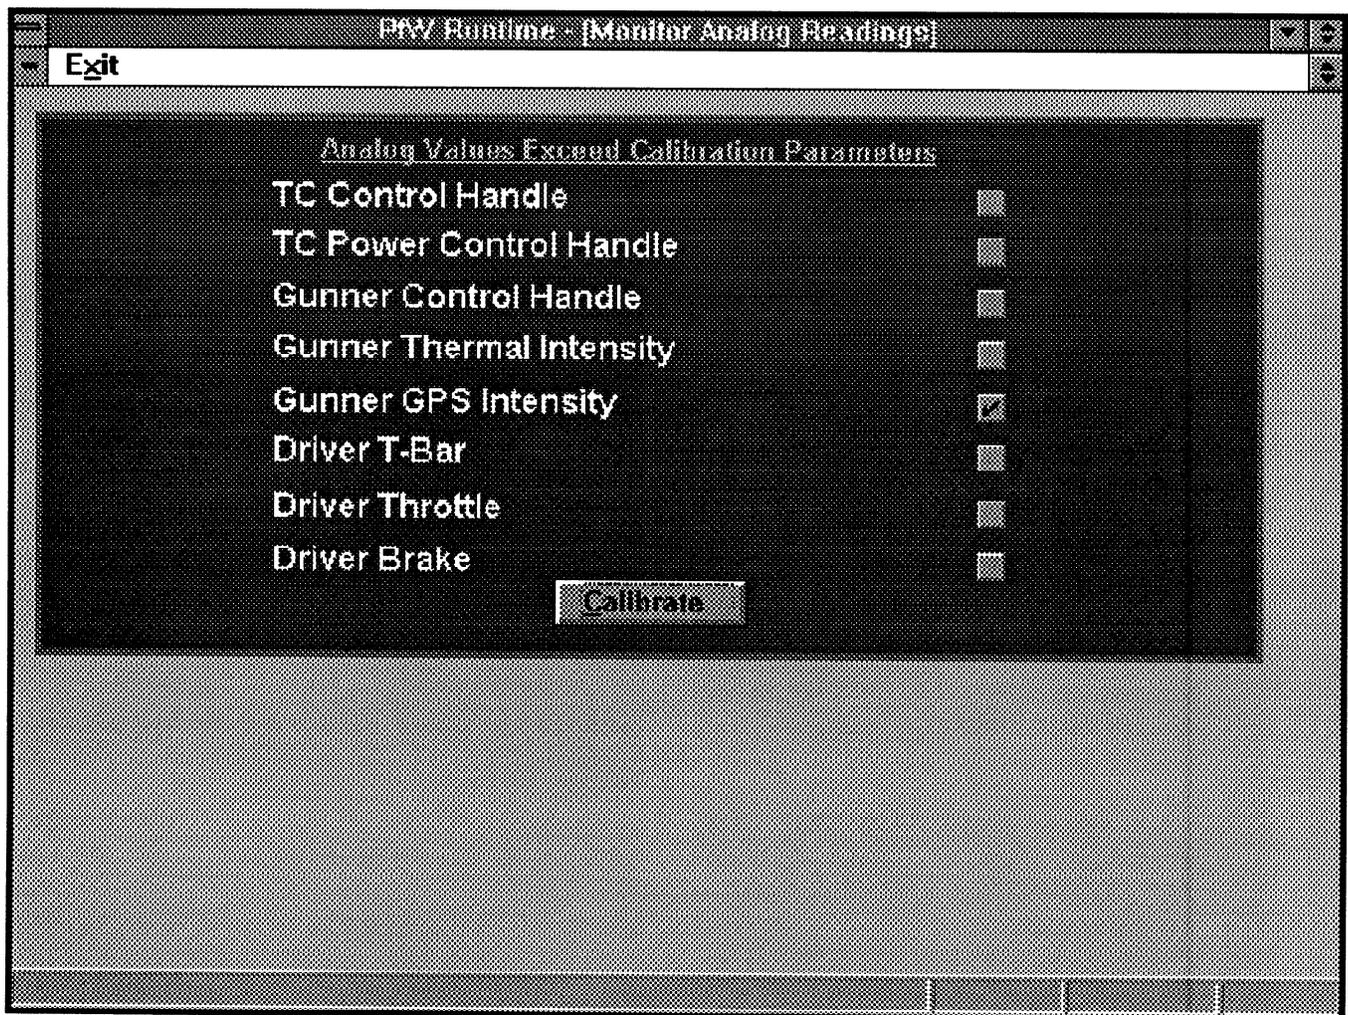

Figure 2-85. Calibrate Message
- c. A problem that could hinder system operation has occurred. For example, when the Gunner's GPS Intensity knob facade is moved outside of calibration range, the message shown in Figure 2-85 displays.